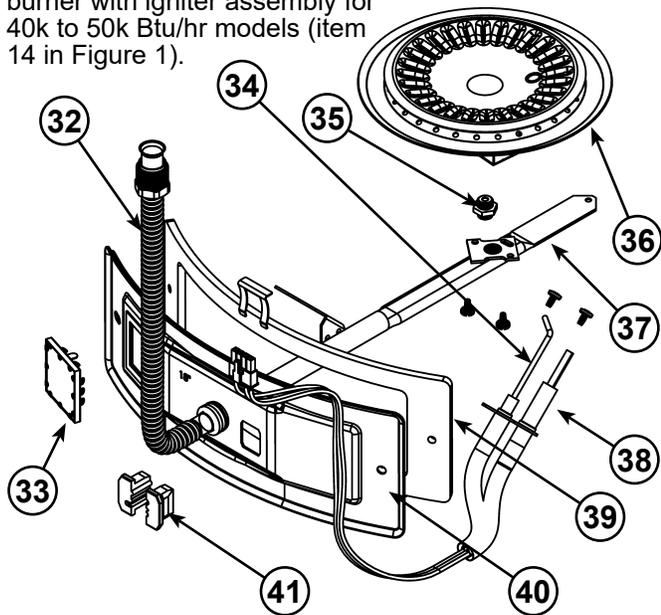
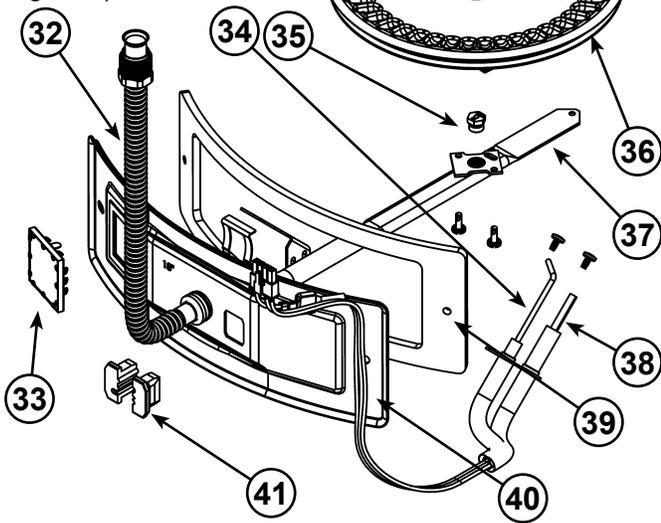
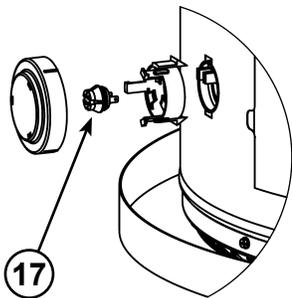
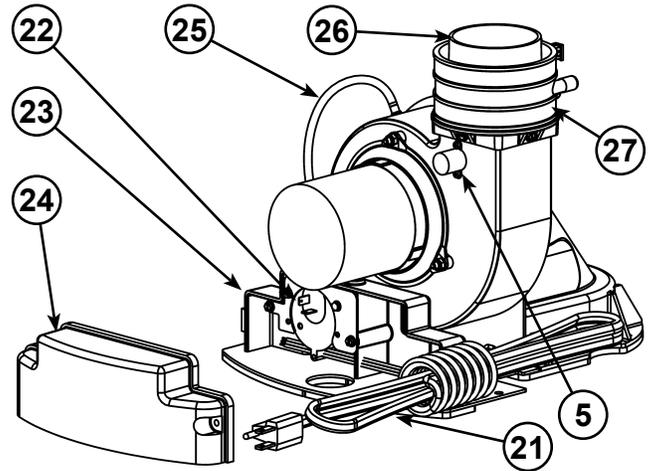

Figure 3.
Figure 4.
Figure 5.
Figure 6.
| 1 Vent Termination Elbow with Rodent Screen                             | 18 **Combo Heating System Return Inlet (Optional)   | 35 Gas Orifice (see Figure 3 & Figure 4)                     |
| 2 *Vent Pipe  | 19 Air Inlet Snorkel                                | 36 Sheet Metal Burner (see Figure 3 & Figure 4)              |
| 3 *Vent Pipe Coupling (if required)                                     | 20 **Combo Heating System Supply Outlet (Optional)  | 37 Gas Manifold (see Figure 3 & Figure 4)                    |
| 4 *Vent Pipe Elbow (long radius)  | 21 Blower with Power Cord (see also Figure 6)       | 38 Hot-Surface Igniter (see Figure 3 & Figure 4)             |
| 5 Blower High Limit Switch (see Figure 6)                               | 22 Air Switch (inside box) (see Figure 6)           | 39 Manifold Door Gasket (see Figure 3 & Figure 4)            |
| 6 T&P Valve   | 23 Junction Box (see Figure 6)                      | 40 Manifold Door (see Figure 3 & Figure 4)                   |
| 7 Cold-Water Inlet Nipple/Diptube                                       | 24 Junction Box Cover (see Figure 6)                | 41 Two Piece Grommet With Clip (see Figure 3 & Figure 4)     |
| 8 Baffle Assembly   | 25 Air Tubing (see Figure 6)                        | 42 *Inlet Water Shut-off Valve                               |
| 9 * Discharge Pipe  | 26 Rubber Coupling (see also Figure 6)              | 43 *Gas Supply*  |
| 10 Gas Control Valve/Thermostat (Honeywell)                             | 27 Gear Clamp (see also Figure 6)                   | 44 *Main Manual Gas Shut-off Valve                           |
| 14 Manifold Door Assembly (behind outer door) (see Figure 3 & Figure 4) | 31 ***Control Harness                               | 48 Rating Plate  |
| 15 *Floor Drain   | 32 Flexible Manifold Tube (see Figure 3 & Figure 4) | 49 *Thermal Expansion Tank (required for all closed systems) |
| 16 *Metal Drain Pan   | 33 Viewport (see Figure 3 & Figure 4)               |  |
| 17 Flammable Vapor Sensor (under cover) (see Figure 5)                  | 34 Flame Sensor Rod (see Figure 3 & Figure 4)       |  |
This device is located on the blower (see Figure 6, item 5) and limits the maximum temperature of the blower. If the blower temperature rises above the temperature setting, the switch opens causing the heater to shut down. The switch will auto reset once the temperature drops sufficiently.
This device, located in the junction box, monitors the air pressure produced by the blower. In the event that the exhaust venting becomes blocked or sufficiently restricted, the switch will shut the heater down (see Figure 6, item 22).